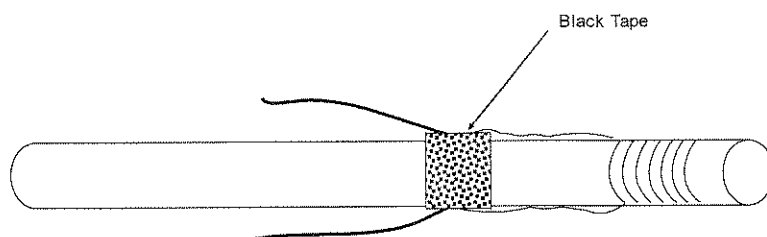

Figure 3: Completed thermometer
- d) To ensure the integrity of the soldered joints, secure the joints to the glass tube with black tape as shown in Figure 3.